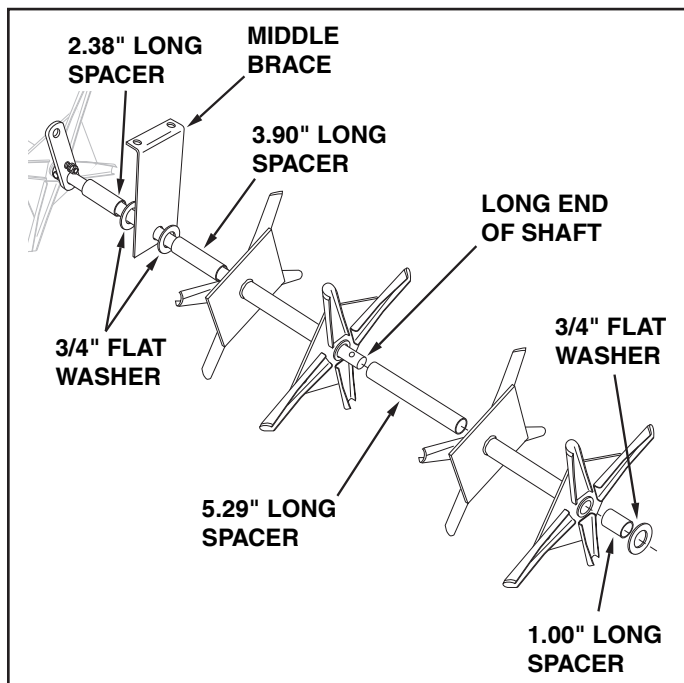

FIGURE 4
- Assemble a 2.38" long spacer, a 3/4" flat washer, the middle brace, a 3/4" flat washer and a 3.90" long spacer onto the **long end** of the shaft. The bent lip of the middle brace must face the short end of the shaft. Next assemble a double spool assembly, a 5.29" long spacer, another double spool assembly, a 1.00" long spacer and a 3/4" flat washer onto the shaft. See figure 4.